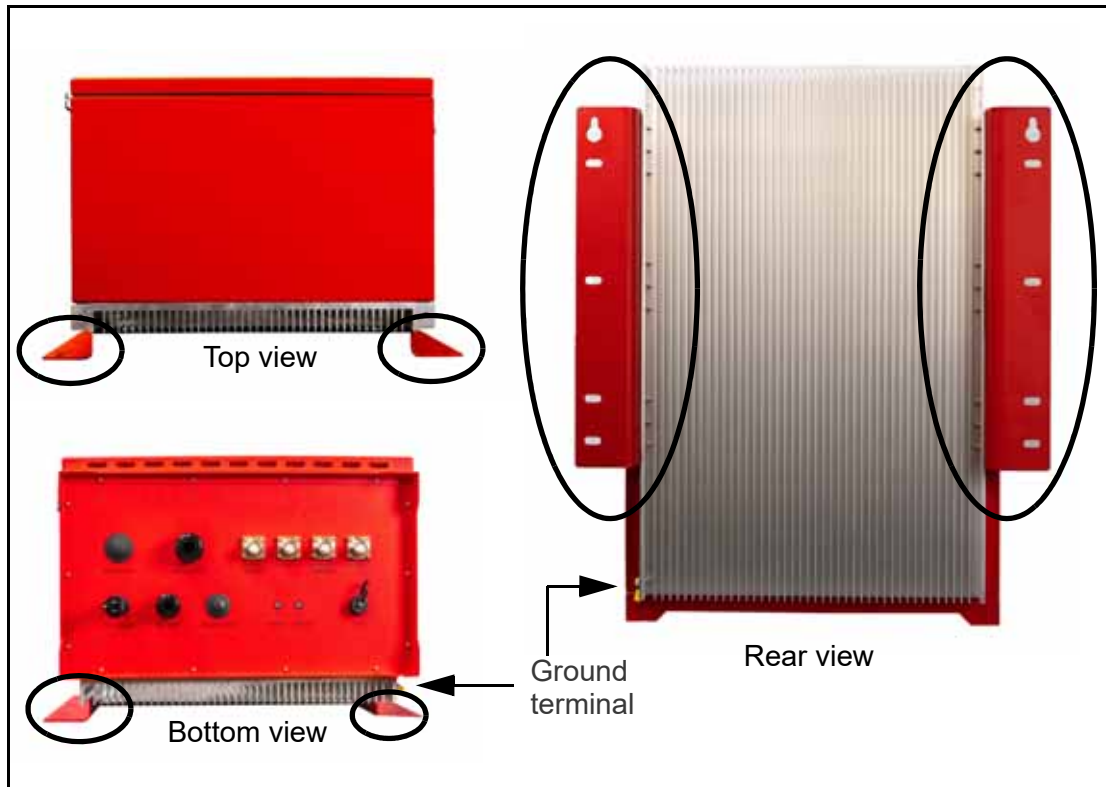

Figure 4-1 Signal Booster Mounting brackets (circled)
1. Using the ProtectLink BDA as a template, mark the eight (8) locations for the wall anchoring system screws (four per mounting bracket). See Figure 4-1.
3. Install a wall anchor (8mm x100mm) in each of the eight (8) drilled holes.
7. Use 16 AWG or greater wire to connect the ground terminal shown in Figure 4-1 above to a reliable earth ground.